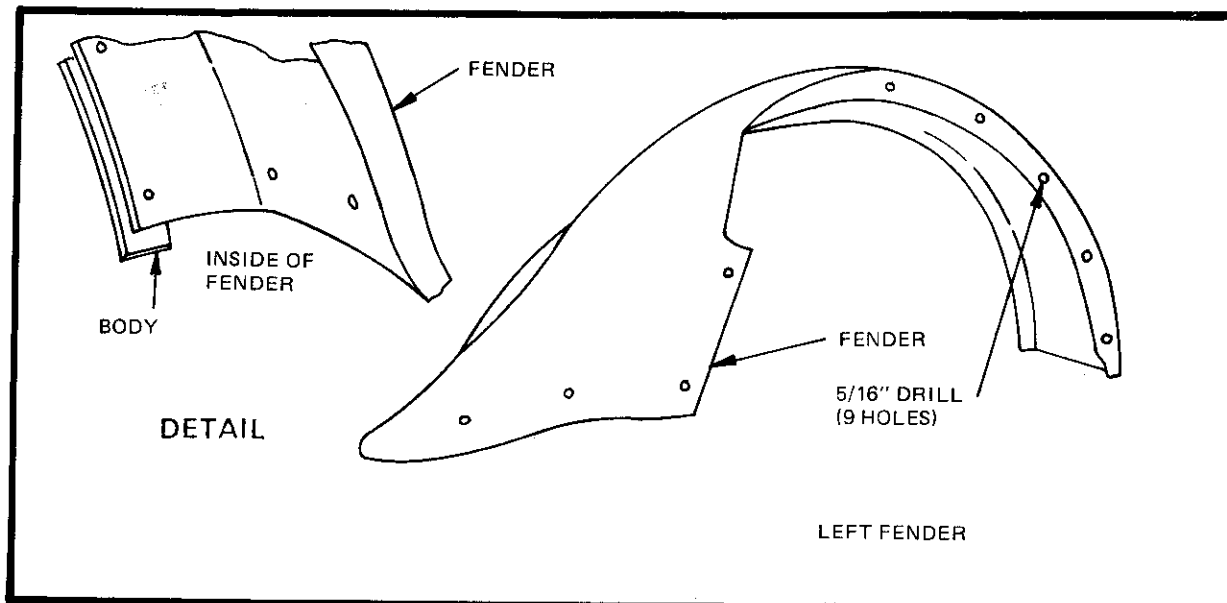

Figure 51
- ☐ Drill as per diagram ($\frac{5}{16}$ "'). (Figure 51) Align front of fender with rear of running board. The rest of the fender will fit into place, indexing with the rear body. Clamp to body and running board. Do not bolt.